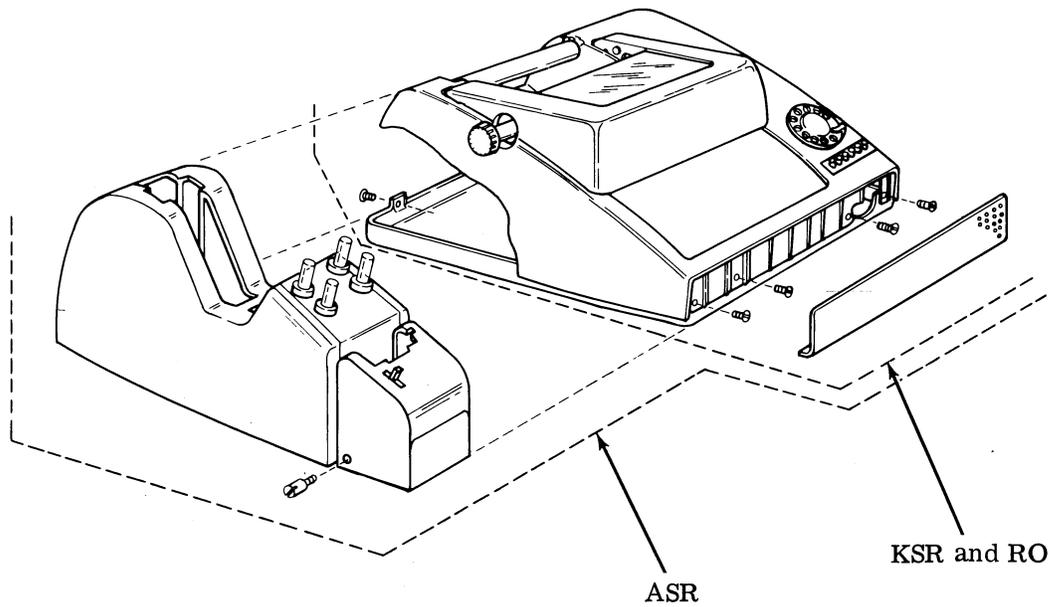

Figure 1 - Set Configurations
2.01 To remove the set cover (Figure 1), proceed as follows.